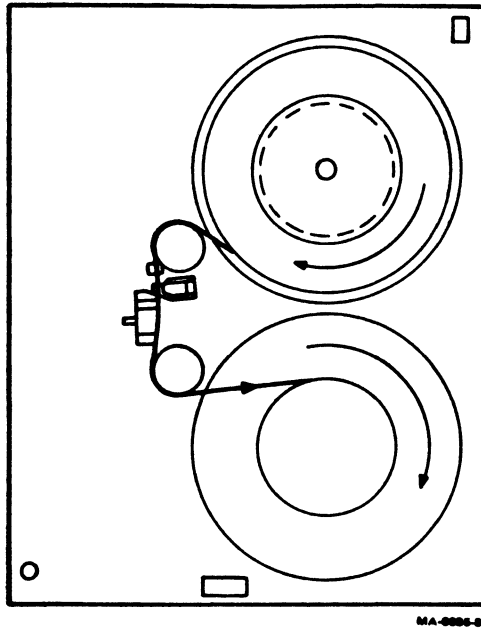

Figure 5-43 TU80 Tape Path
5. Thread magnetic tape through the tape path as shown in Figure 5-43.